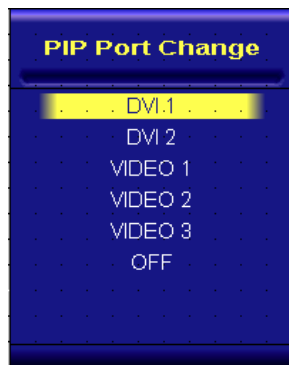

Figure 1
1. Default main screen shows at RGB1 & RGB2 → Press “PIP” button → Figure 1